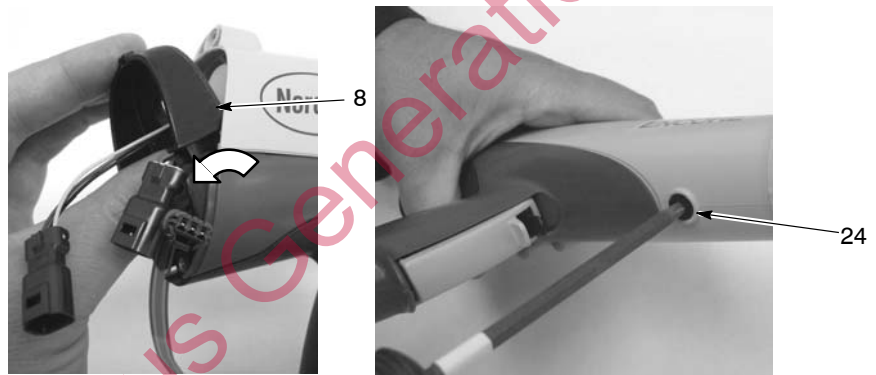

Figure 2 Removing Bulkhead and Body Screw
11. See Figure 2. Pull on the top of the bulkhead (8) to remove it from the gun. Leave the power supply in the gun body.
12. Remove the M5 x 10 nylon screw (24) from the gun body.
17. See Figure 2. Install the M5 x 10 flat head nylon screw into the gun body to secure it to the handle.